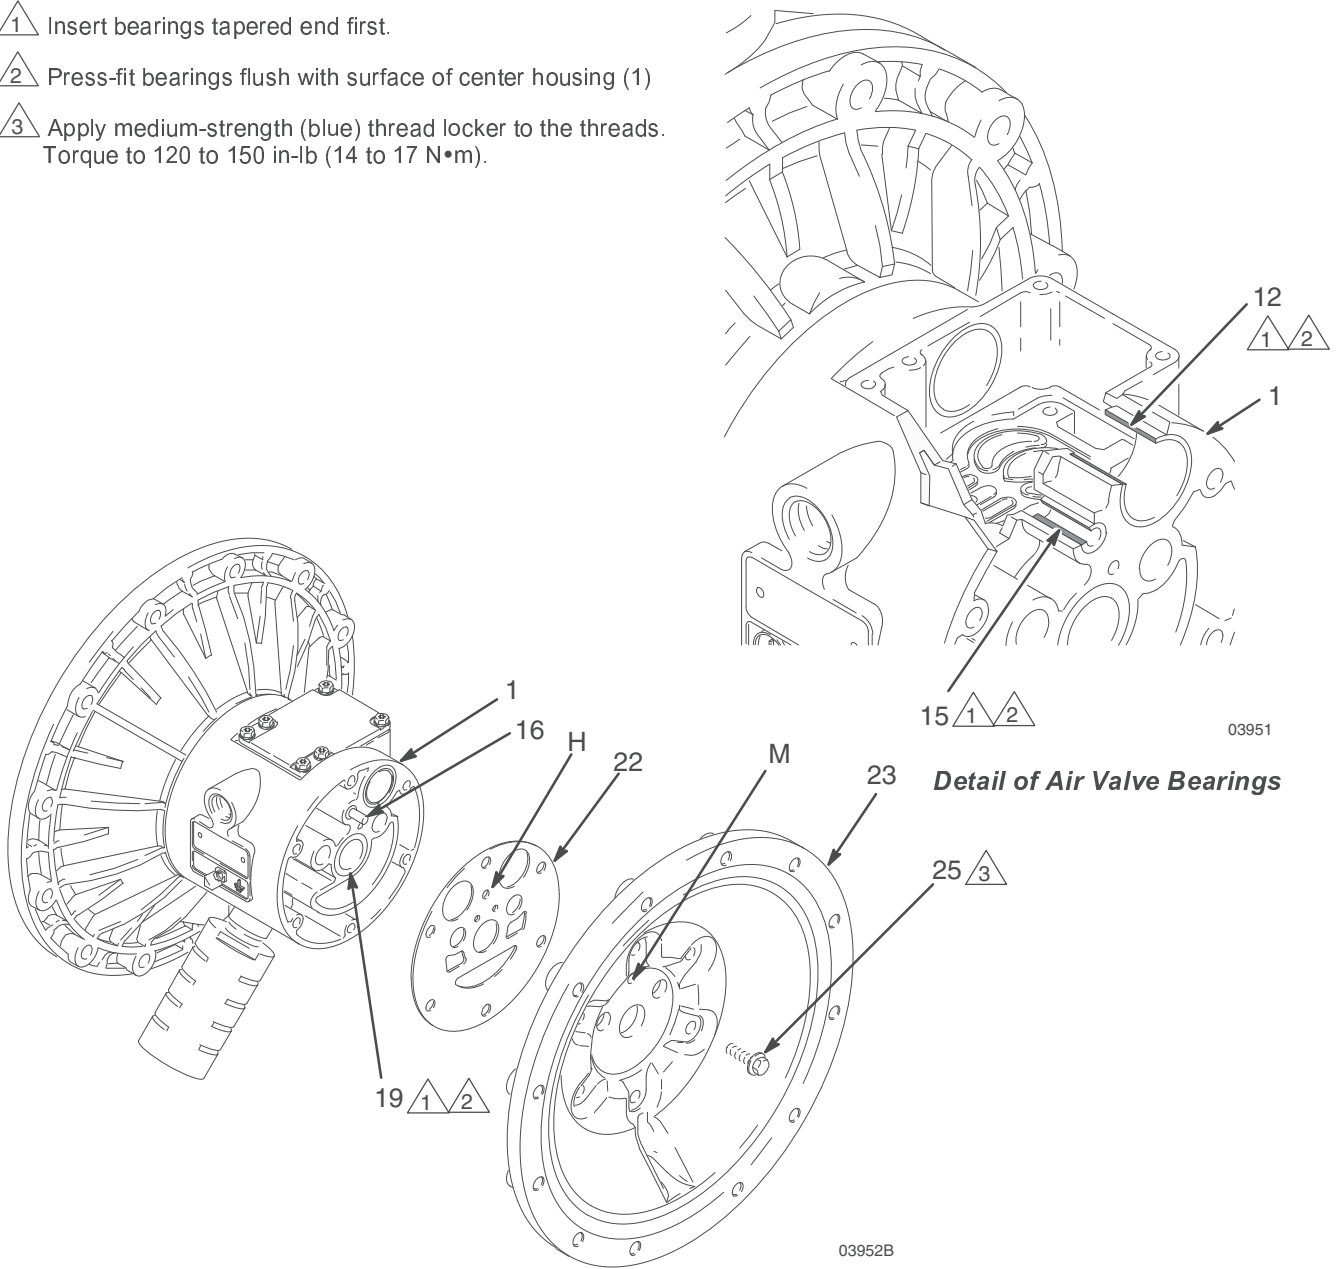

FIG. 13
**NOTE:** If you are removing only the diaphragm shaft bearing (19), skip step 4.
5. Using a 10 mm socket wrench, remove the screws (25) holding the air covers (23) to the center housing (1). See FIG. 13.
6. Remove the air cover gaskets (22). Always replace the gaskets with new ones.
7. Use a bearing puller to remove the diaphragm shaft bearings (19), air valve bearings (12) or pilot pin bearings (15). Do not remove undamaged bearings.
1. If removed, install the shaft u-cup packings (402\*) so the lips face **out** of the housing (1).
2. The bearings (19, 12, and 15) are tapered and can only be installed one way. Insert the bearings into the center housing (1), **tapered end first**. Using a press or a block and rubber mallet, press-fit the bearing so it is flush with the surface of the center housing.
4. Align the new air cover gasket (22) so the pilot pin (16) protruding from the center housing (1) fits through the proper hole (H) in the gasket.
5. Align the air cover (23) so the pilot pin (16) fits in the middle hole (M) of the three small holes near the center of the cover. Install the screws (25), handtight. See FIG. 13. Using a 10 mm socket wrench, torque the screws oppositely and evenly to 120 to 150 in-lb (14 to 17 N•m).